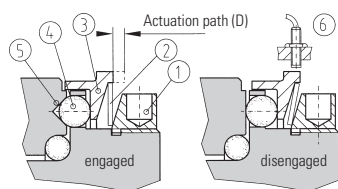

Figure 1
alpha torque limiting couplings are ball detent style overload couplings. They protect drive and driven mechanical components from damage associated with torque overloads. Backlash free torque transmission is accomplished by a series of steel balls (4) nested in hardened detents (5). See figure 1. Disc springs push against an actuation ring (3) keeping the balls nested. The disengagement torque is adjustable by means of an adjustment ring (1). In the event of an overload, the actuation ring moves axially allowing the balls to come off the detents separating the drive and driven elements. The movement of the actuation ring can be sensed by means of a mechanical switch or proximity sensor triggering the drive to shut down.